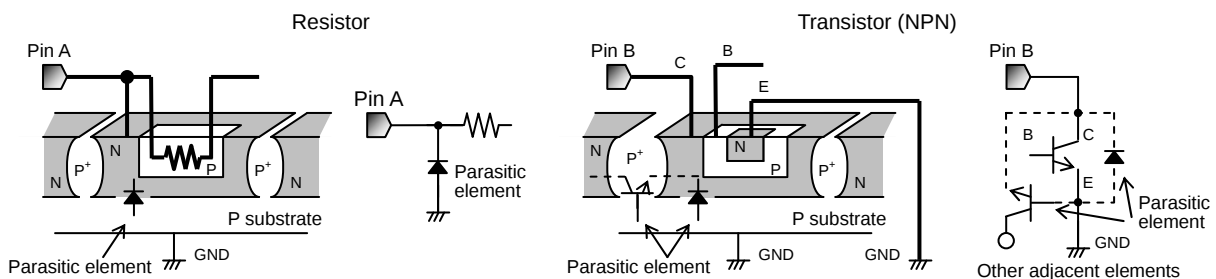

Fig. 31 Example of IC structure
12. Regarding Input Pin of the IC (Fig.31)